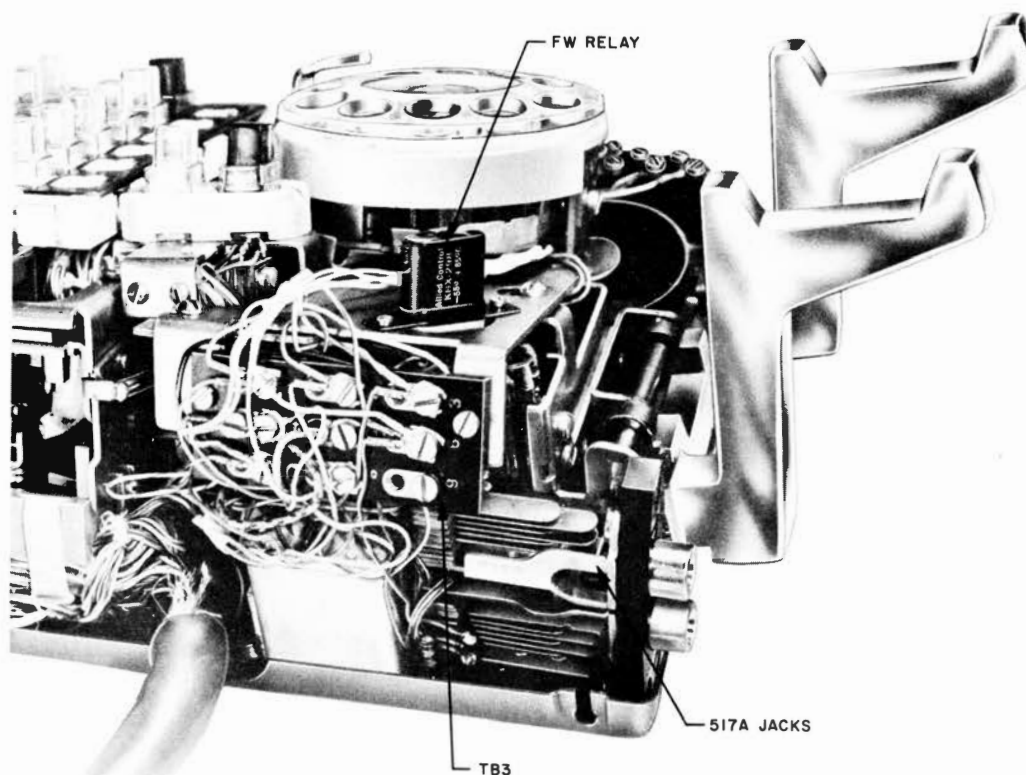

Fig. 3 — FW Relay
3.03 The relay *FW* used for switching between 2- or 4-wire circuits is a sealed unit (Fig. 3). No adjustments are possible and a replacement unit (P-15E238) consisting of a sealed relay unit with spade-tipped leads can be ordered when required for maintenance reasons.